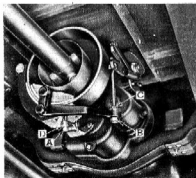

Fig. 53—Propeller Shaft Brake
2. Loosen lock nut "D" and draw up adjusting bolt "A" (fig. 53) to secure clearance between outer shoe facing and brake drum of .010"-.015" measured at a point directly above bolt "A". Then hold bolt and tighten lock nut securely.